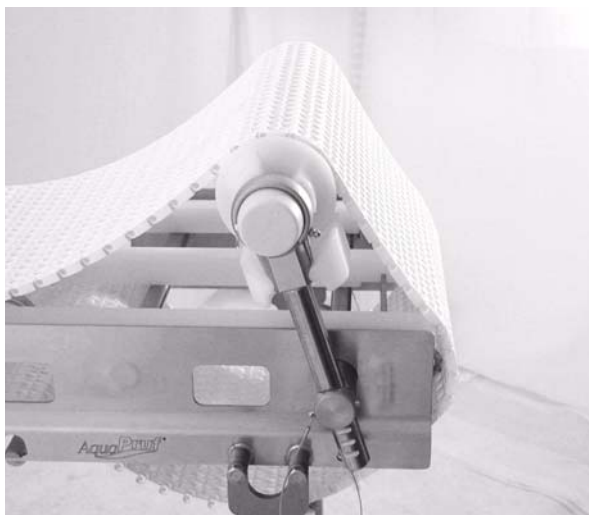

Figure 53
1. Tip up idler tail assembly (**Figure 53**).